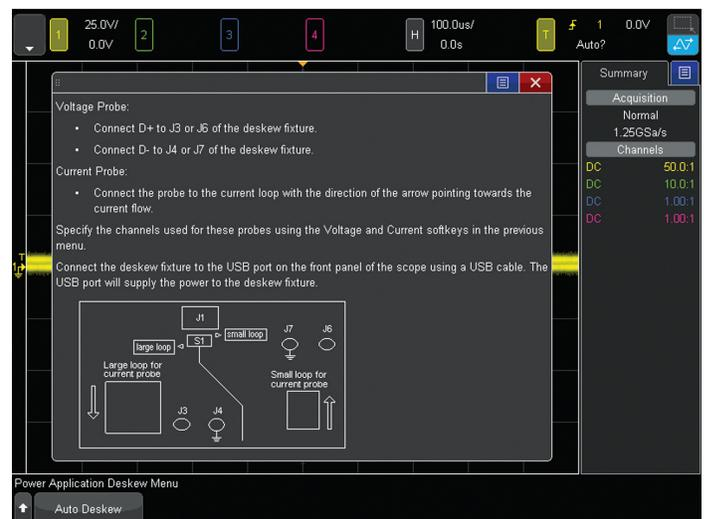

Figure 6: Deskew Connections diagram
6. Set the S1 switch on the deskew fixture to the "Small Loop" setting as shown in the on-screen diagram in Figure 6.